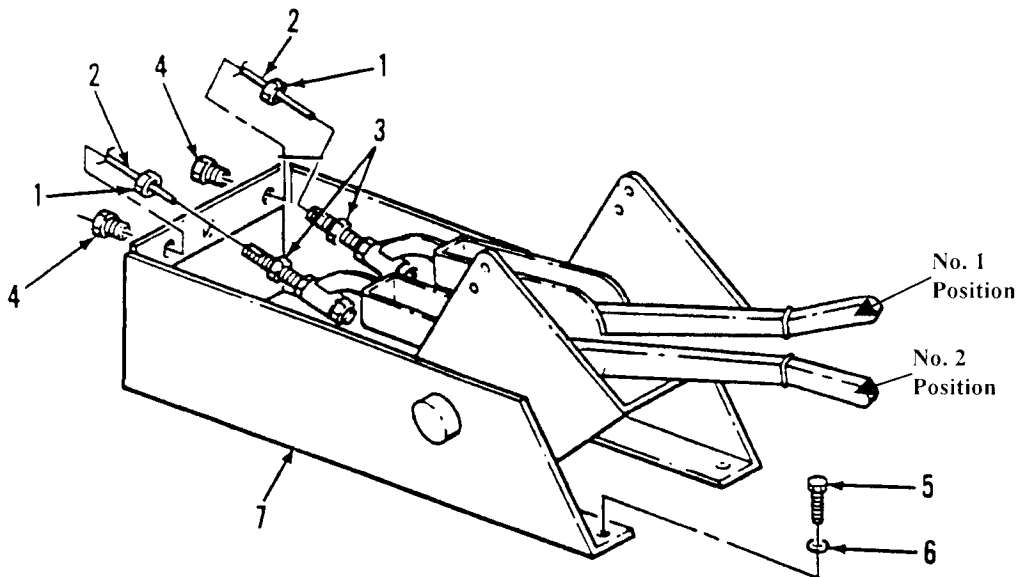
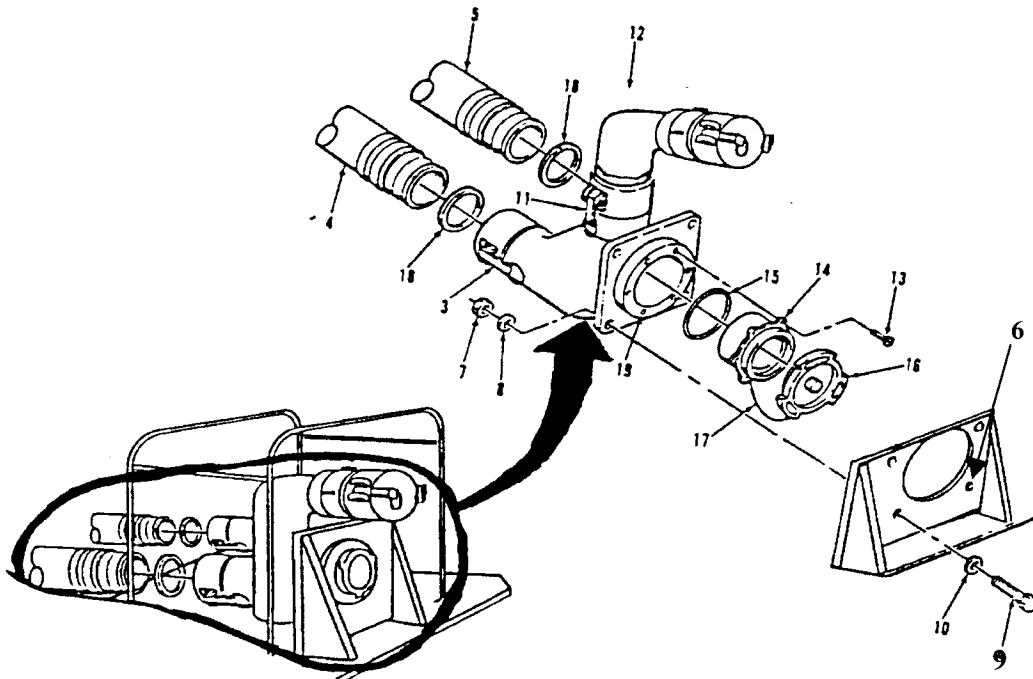

Figure 4-14 Control Box Assembly "Control Levers".
Figure 4-17 Fuel Manifold Assembly.
(1) Removal.
- (a) Loosen nuts (1) to disconnect cables (2) from the adjusting bolt (3). See Figure 4-14.
- (b) Remove the nuts (1) and withdraw cables (2) through bushing (4).
- (c) Remove screw (5) and lock washers (6) to remove lever assembly (7) from Control Box Assembly.
- (a) Pull out on cam lock handles (3) on manifold (12). See Figure 4-17.
- (c) Remove nuts (7), lock washers (8), screw (9) and flat washer (10).
- (d) Remove Fuel Manifold Assembly (12) from mount (6).
(2) Disassembly.
- (a) Remove screw (13), service adapter (14) and O-ring packing (15).
- (b) Remove cap (16) and lanyard (17).
(3) Repair.
- (b) Examine manifold for cracks or other damage. Check gasket (18) in coupling halves for damage. Replace as required.
- (c) Inspect thread inserts (19). If they are damaged, extract them and install new inserts.
(4) Assembly.
(a) Install O-ring packing (15) on service adapter (14) and insert into fuel manifold (6). Install screws (13). See Figure 4-17.
(b) Make sure gaskets (18) are in place. Guide tank hoses (4 and 5) into place onto fuel manifold. Close cam lock handles (3). See Figure 4-17.
(a) Loosen nuts (1) to disconnect cables (2) from the adjustable bolt (3). See Figure 4-14.
(b) Remove the nuts (1) and withdraw cables (2) through bushing (4). See Figure 4-14.
(c) Pull out on cam lock handles (3) at Fuel manifold (12). See Figure 4-17.
(d) Disconnect hoses (4) and (5). See Figure 4-17.